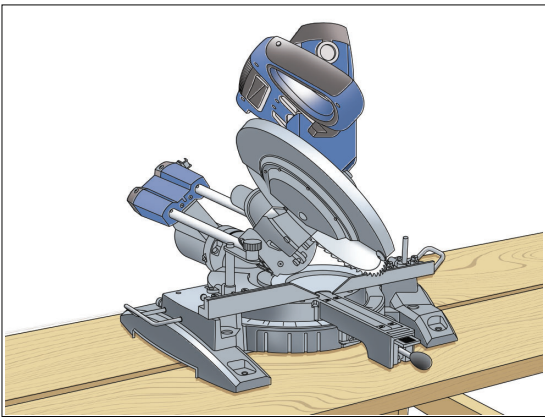

Figure 8D. Compound miter saw
- A compound miter saw (Figure 8D) will be needed to cut mitered corners on Hardie® Artisan lap siding and trim.